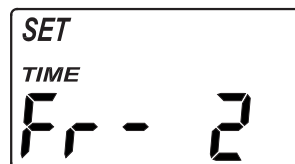

FIG. 42
2. Press the SELECT button three times, so that "SET TIME Fr" appears in the display (See Figure 42).